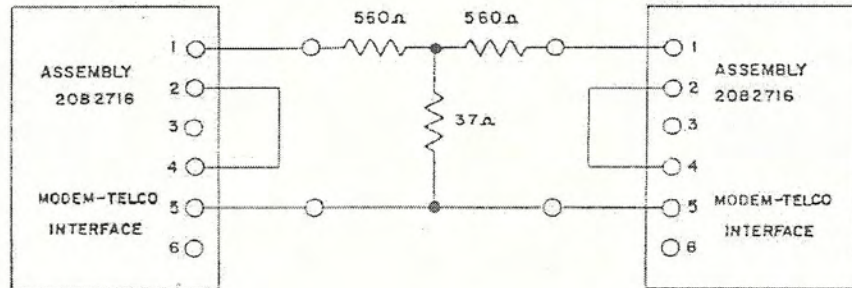
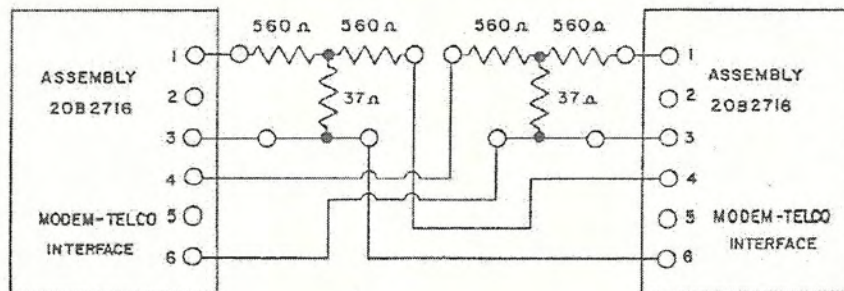
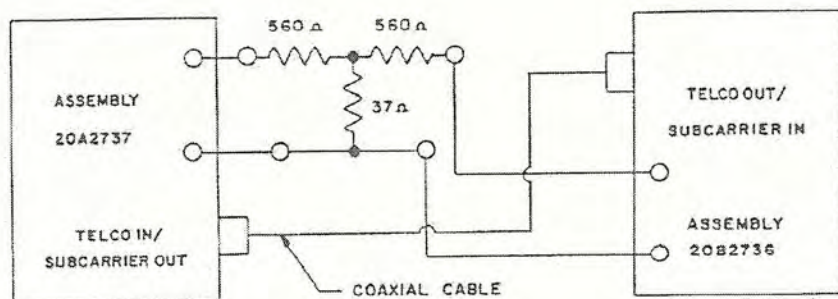
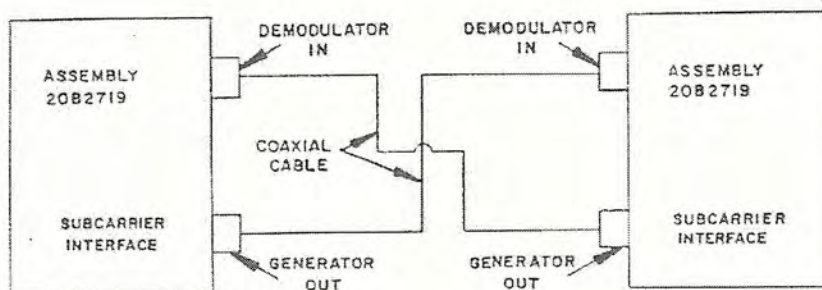

Figure 5-2
Figure 5-3
Figure 5-4
Figure 5-5
1. Connect the Control and Remote Terminals back-to-back on the bench. For a two-wire system, see Figure 5-2. For a four-wire system, see Figure 5-3. For a mixed Telco and subcarrier system, see Figure 5-4. For systems using a subcarrier interconnect in both directions, see Figure 5-5.